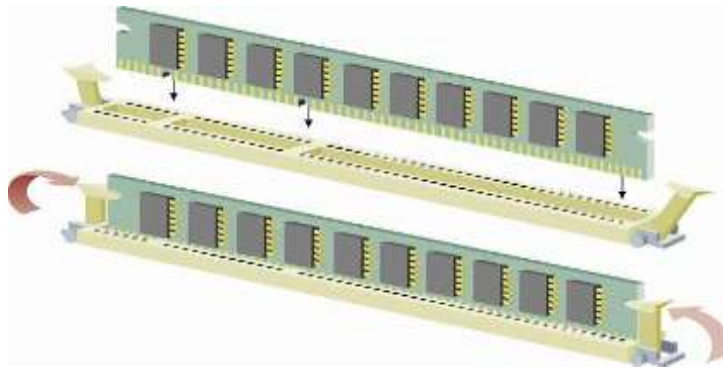

Figure 5.4: DIMM installation.
- As shown in Figure 5.4, pull out the supporting arms on the sides of the slot.